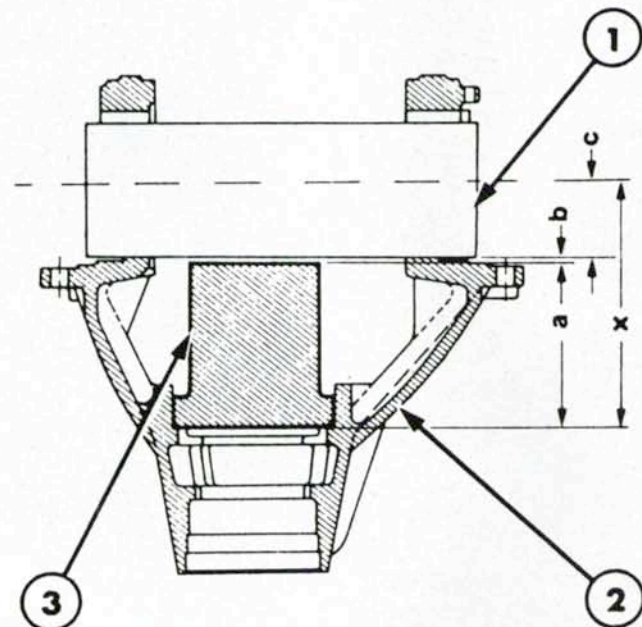

Fig. 28—Diagram of bevel pinion bearing shimming tools and measuring points. Refer to text.
Refer to Fig. 28 and install dummy pinion (3), from special adjusting tool set No. 3131, into bore of differential housing. Install pinion setting mandrel (1) into differential bearing bores.
Measure the gap (b—Fig. 28) between dummy pinion and mandrel with a feeler gage, then perform the following calculation. Add the height of dummy pinion (a) plus the measured gap (b) plus one-half the diameter of differential bores (c). The result is dimension (x).